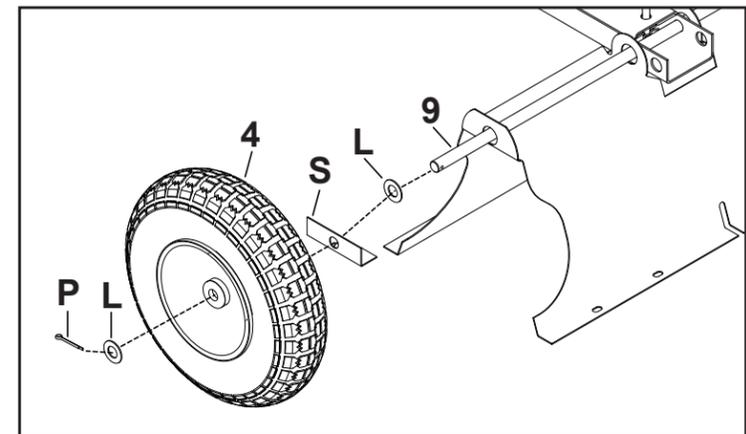

Figure 7
STEP 1 (SEE FIGURE 7): Install a 1-1/4" washer (L), axle keeper (S), wheel (4) (with valve stem facing outwards), and another 1-1/4" washer (L) onto the axle (9).
STEP 2 (SEE FIGURE 7): Secure with a 1/8" x 1-1/4" cotter pin (P). Split the ends of the cotter pin (P).
STEP 3 (SEE FIGURE 7): Repeat to install the wheel on the other side.